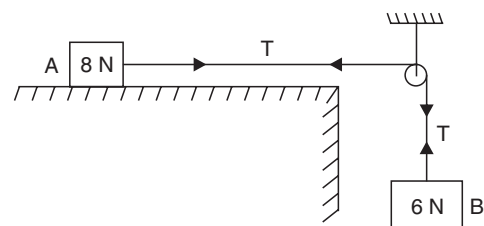

Fig. 8.12
**Example 8.20.** Find the acceleration of a solid body A of weight 8 N, when it is being pulled by another body of weight 6 N along a smooth horizontal plane as shown in Fig. 8.12.
**Sol.** Refer to Fig. 8.12.